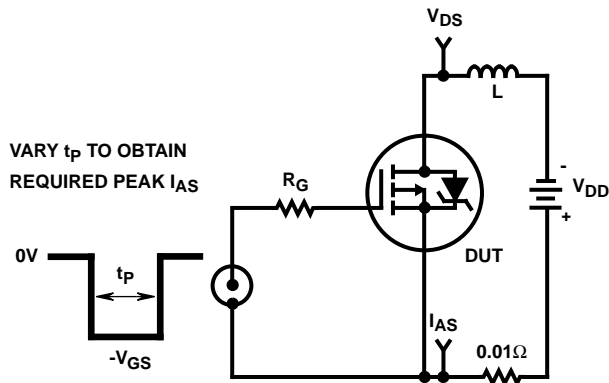

FIGURE 15. UNCLAMPED INDUCTIVE ENERGY TEST CIRCUIT
- $V_{DD} = 25\text{V}$, starting $T_J = 25^\circ\text{C}$, $L = 4\text{mH}$, $R_G = 25\Omega$, peak $I_{AS} = 19\text{A}$. (Figures 15, 16).